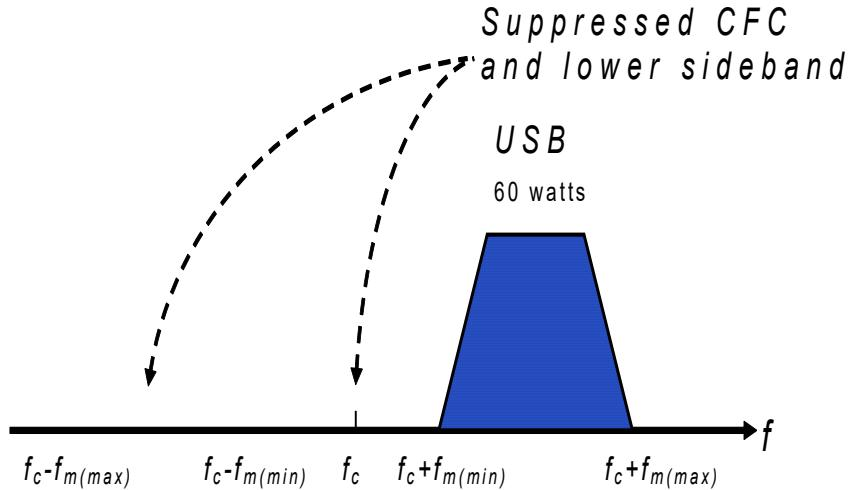

Figure 6-3: A SSB-SC Signal in USB Mode
If the SSB signal of Figure 6-3 is sending a voice signal (300 Hz - 3 kHz), calculate:
b) In Figure 6-3, f_{\min} is equal to $f_c + f_{m(\min)}$, and f_{\max} is equal to $f_c + f_{m(\max)}$, so we can state: